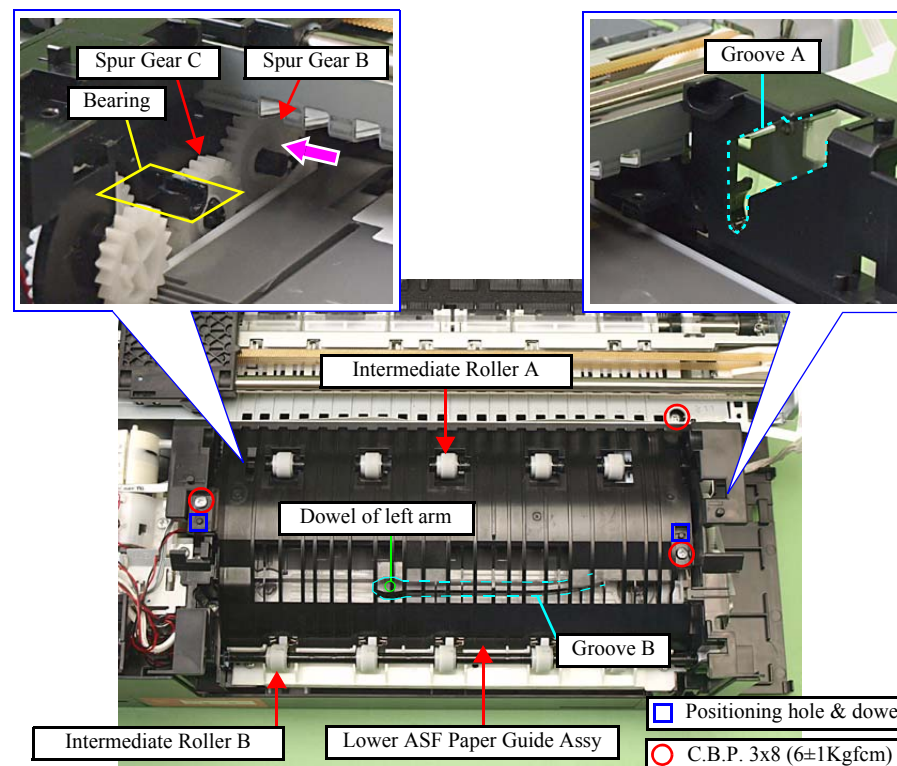
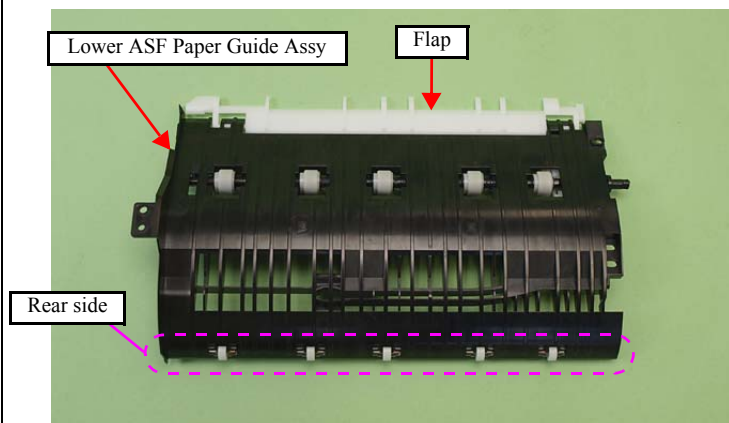

Figure 4-89. Removing the Lower ASF Paper Guide Assy (2)
Figure 4-93. Installing the Lower ASF Paper Guide Assy
2. Remove the screws (x3) that secure the Lower ASF Paper Guide Assy. (See Fig. 4-89.)
- Make sure to install the Lower ASF Paper Guide Assy while pressing the Spur Gear B in the direction of the arrow so as to engage it with the Spur Gear C. (See Fig. 4-89.)
- When installing the Lower ASF Paper Guide Assy, the tip of the flap is inserted between the CDR Tray Assy and the Upper Paper Guide. Take care not to damage the flap by getting contact with such parts then. (See Fig. 4-93.)
- Make sure to attach the Intermediate Roller A into the bearing on the Base Frame. (See Fig. 4-89.)
- Attach the rear side of the Lower ASF Paper Guide Assy so as to let its roller and the Intermediate Roller B touch. (See Fig. 4-89, Fig. 4-93.)
- Insert the dowel of the left arm of the CDR Tray Assy into the groove B on the Lower ASF Paper Guide Assy. (See Fig. 4-89.)
- Make sure to align the dowels (x2) of the Base Frame with the positioning holes (x2) of the Lower when reassembling them. (See Fig. 4-89.)